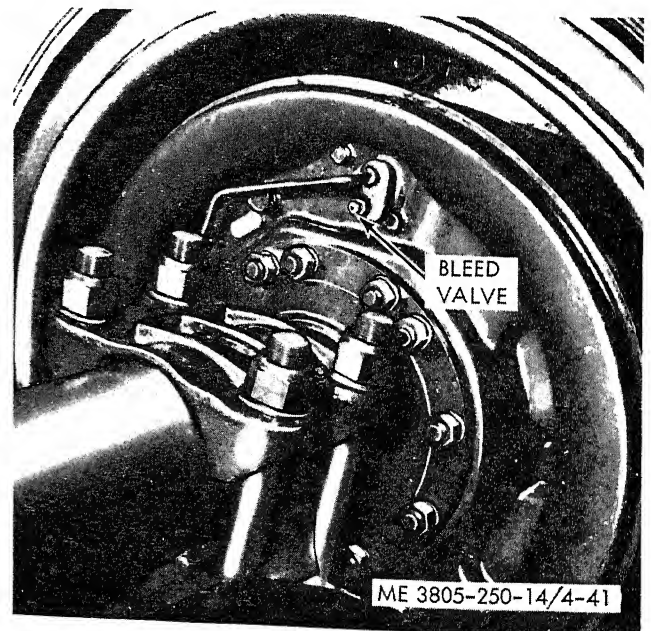

Figure 4-41. Bleeding brakes.
(1) Fill and bleed the pressure tank according to manufacturer's directions
(2) Connect a line from the pressure tank to the hydraulic cylinder filler opening and open the valve on the pressure tank.
(3) Loosen the bleeder valve (fig. 4-41) on the wheel cylinder and observe brake fluid flow. When air bubbles no longer appear, close bleeder valve.
(4) Repeat step 3 for opposite wheel.